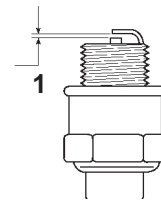

Figure 19
5. Set the gap on the new plug to 0.030 in. (0.76 mm) (Fig. 19).